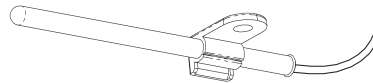
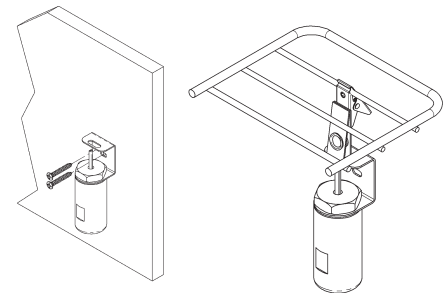
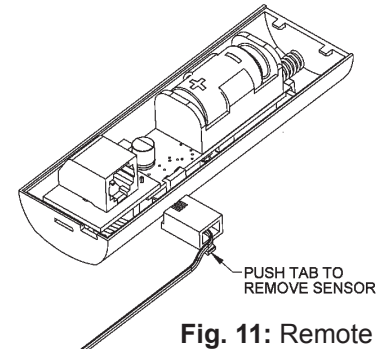

Fig. 6: External Probe Mounting with a Flexible Probe Bracket (BA/FPB)
Fig. 7: External Hanging Bracket Sensor Mounting
Fig. 11: Remote Sensor Connection
7. Mount the External Probe using a Flexible Probe Bracket (Fig. 6) or use the clip or screw hole on the Hanging Bracket Sensor (Fig. 7)
7. For remote sensors, string the wire through the freezer door and place the sensor in the best location to measure the required temperature. Sensor removal from the transmitter may be necessary. See Fig. 11.
8. Mount the External Probe using a Flexible Probe Bracket (Fig. 6) or use the clip or screw hole on the Hanging Bracket Sensor (Fig. 7). Reconnect the remote sensor if necessary (Fig. 11)
2. An RJ11 connector is located at the bottom of the board. Insert the sensor RJ11 plug (tab down) into the connector until it is fully seated (Fig. 11).